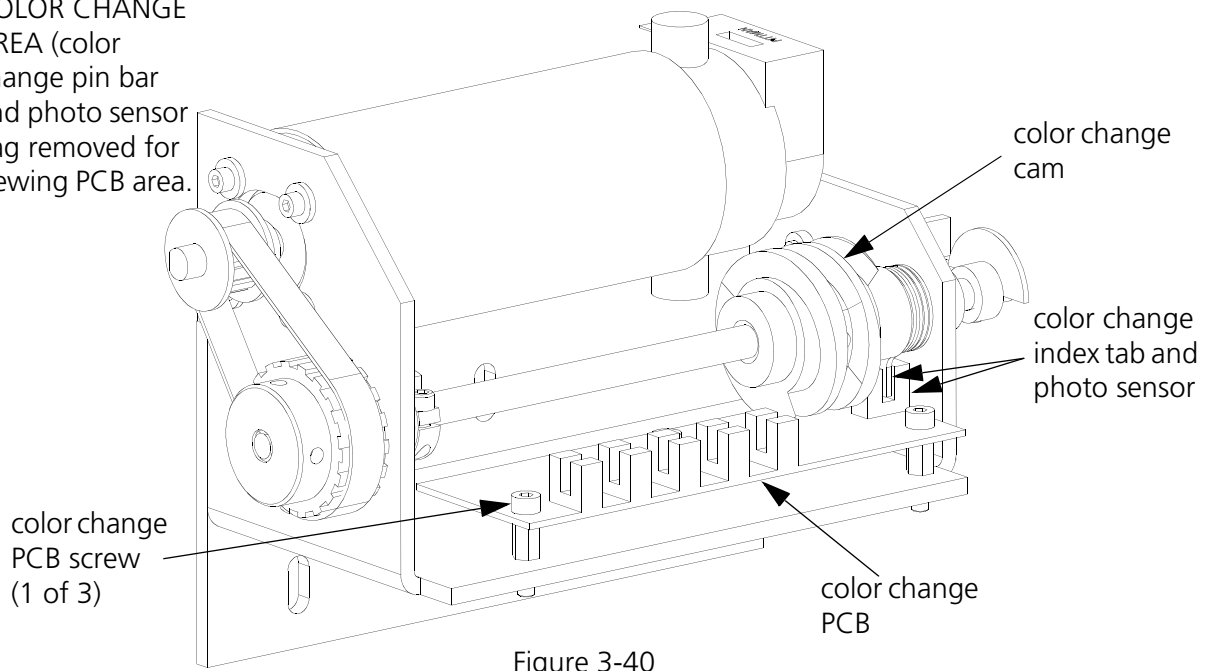

Figure 3-40
3. Locate the color change PCB mounted in the base of the color change assembly frame (see Figure 3-40).